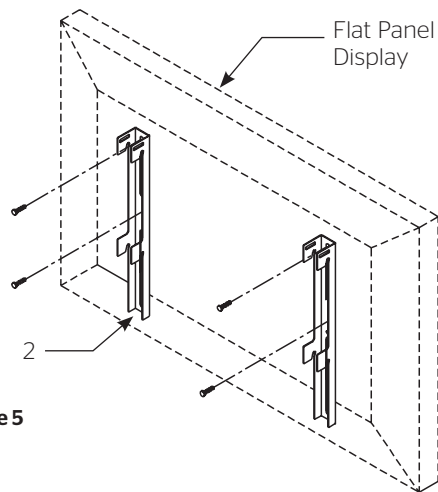

Figure 5
- Secure the Hanging Brackets to the back of flat panel display utilizing all of the fastener points recommended by the flat panel manufacturer. See Figure 5.